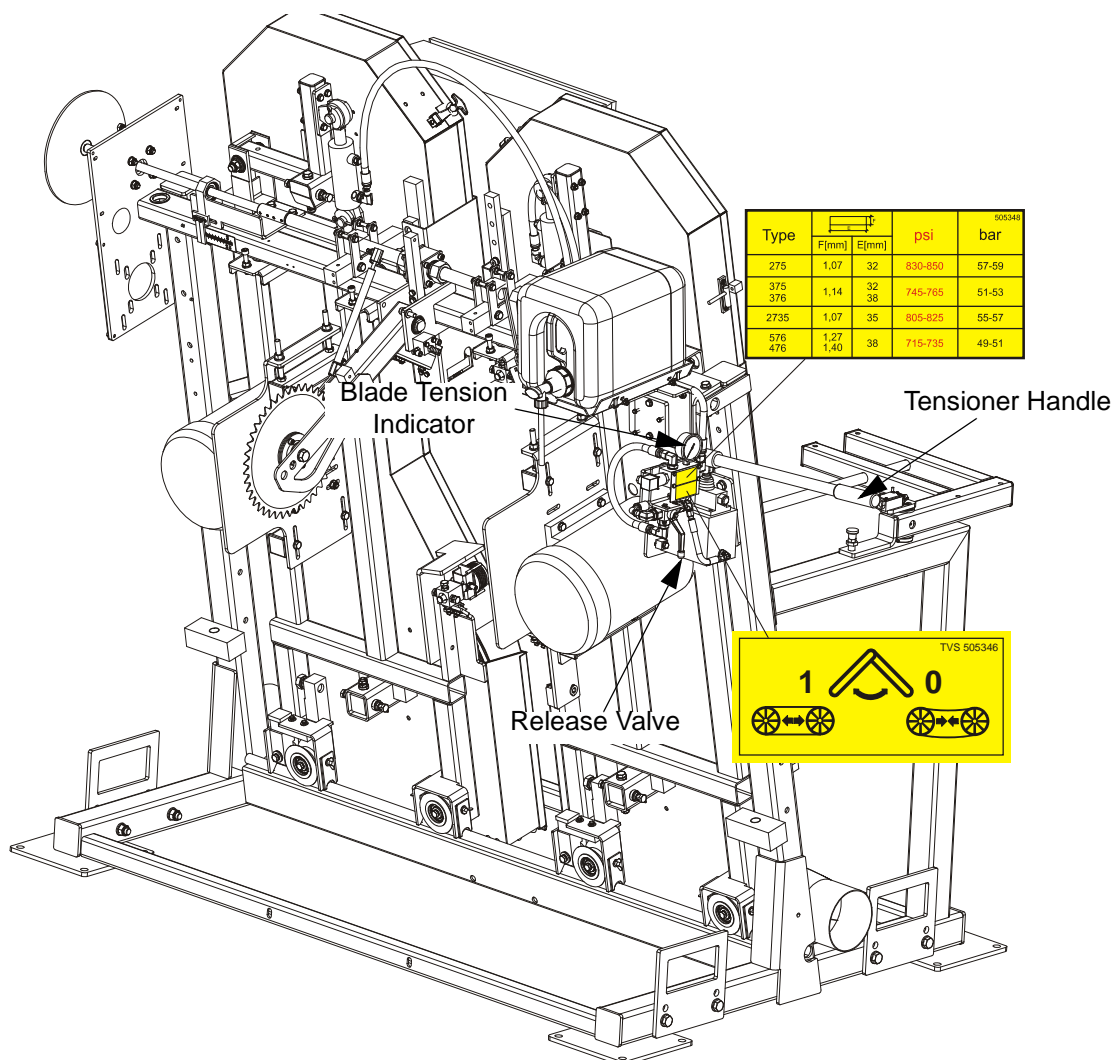

FIG. 2-7
See Figure 2-7. Place the provided handle in the blade tensioner socket and secure with a screw. Set the tensioner valve to position “1”. Move the tensioner handle up and down to tension the blade. Depends on the installed blade type, tension the blade to the value shown on the decal located below blade tension valve. Values “F” and “E” are: blade thickness and blade width. Check the blade tension occasionally when adjusting the cant control or while cutting and adjust if necessary. As the blade and belts heat up and stretch, the blade tension will change. Also, ambient temperature changes can cause tension to change. To release the blade tension set the tensioner valve to “0” position.
5. Use the cant adjustment bolt, shown in **Figure 2-7**, to adjust where the blade travels on the blade wheels.
be started. To start the track chain motor, turn the Track Start switch (shown in Figure 2-7) right to start the track forward, turn the switch left to start the track backward. Press the STOP button to stop the track.